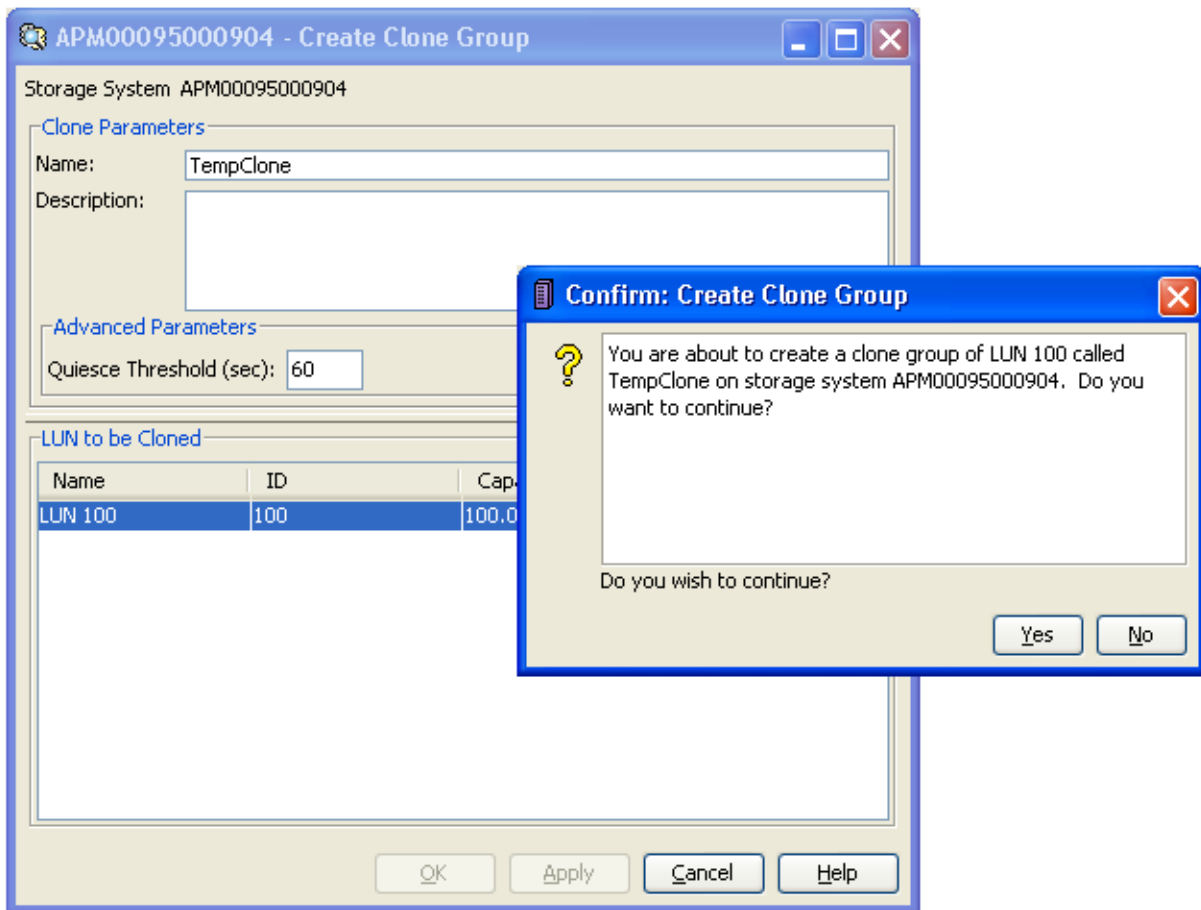

Figure 14 – Clone Configuration
6. Provide the name for the clone group, select the LUN id you plan to clone, click OK and then Yes; see Figure 14.